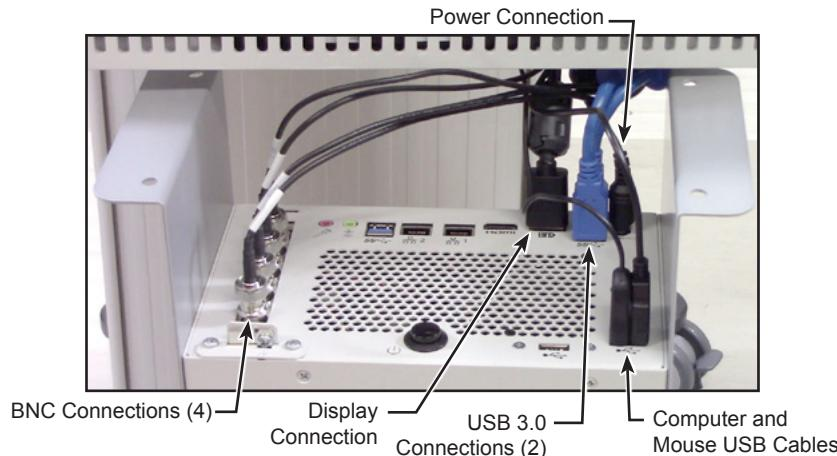

Figure 2-14 Computer Connections
- 4.2 Connect the cables to the computer as shown in Figure 2-14.